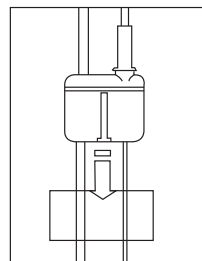
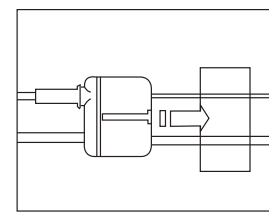

Fig. 4 – Pump Assembly Vertical
Fig. 5 – Pump Assembly Horizontal
- Screw the bracket to the wall and attach the pump to the bracket as shown in Fig. 4 and Fig. 5.